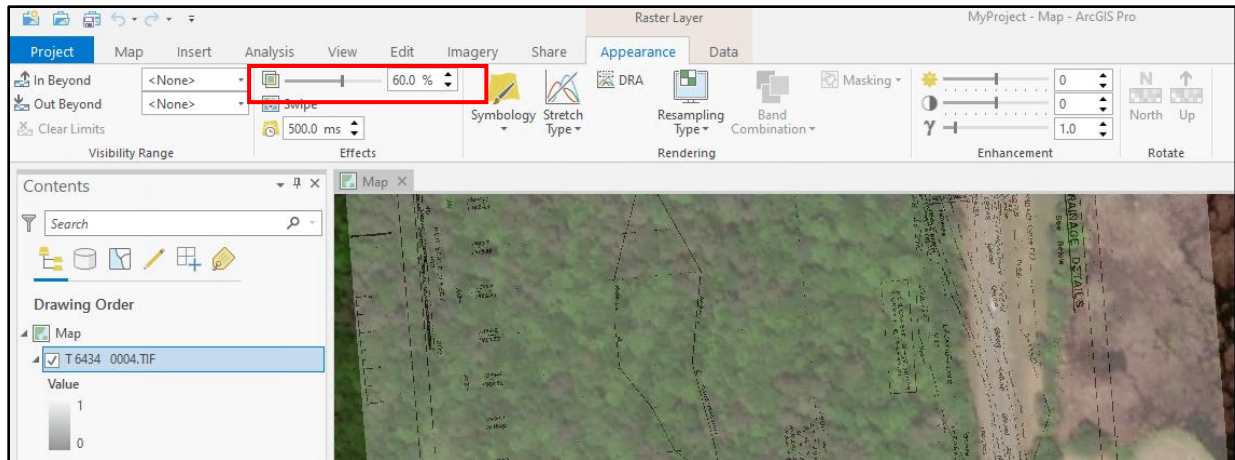

Figure 31. Adjust transparency in ArcGIS Pro.
- With the TIFF selected in the Contents pane, adjust the appearance of the TIFF to be transparent (at least 60%) in the Appearance Tab so the aerial map can be seen through the plan (Figure 31, below). This allows you to identify reference points that match on the aerial and plan (step 6).